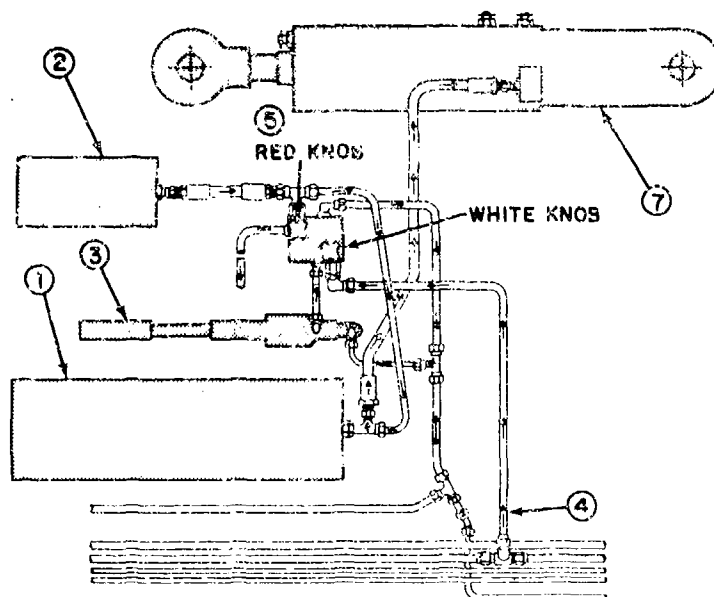

Fig 7-16. Components of the equilibrator system M109A1/A2/A3.
a. *Type.* The equilibrator (fig 7-16) is of the hydropneumatic type, in that both a fluid (hydro) and a gas (pneumatic) are employed in the system.
(2) *Accumulator.* On the M109A1/A2/A3, there are two accumulators located at the gunner's station. The primary one (fig 7-16(1)) is located below the handpump on the cab wall. The secondary one (fig 7-16(2)), which is smaller, is located above the handpump (fig 7-16(3)) on the cab wall.
(3) *Reservoir.* On the M109A1/A2/A3, the main reservoir provides hydraulic fluid to the accumulators through a pressurized line (fig 7-16(4)) or a free-flow line should the weapon be without power.
(4) *Handpump.* A handpump (fig 7-16(3)) is incorporated into the system to force the hydraulic fluid from the reservoir to a cross in the line leading from the accumulator to the cylinder. This permits adjustment of the equilibrator system to compensate for variations in the temperature. The handpump is located at the gunner's station on the left cab wall.
(5) On the M109A1/A2/A3 there two valves. The drain valve (painted red) allows the fluid to be completely drained out of the system. The second valve is the equilibrator valve knob, which allows fluid to be supplied to the equilibrators from the main accumulator. Variations in temperatures can affect elevating or depressing of the cannon. The equilibrator, which counterbalances the weight of the tube, must be adjusted if more effort is required to elevate than depress or vice versa. Take the following steps to compensate for differences.